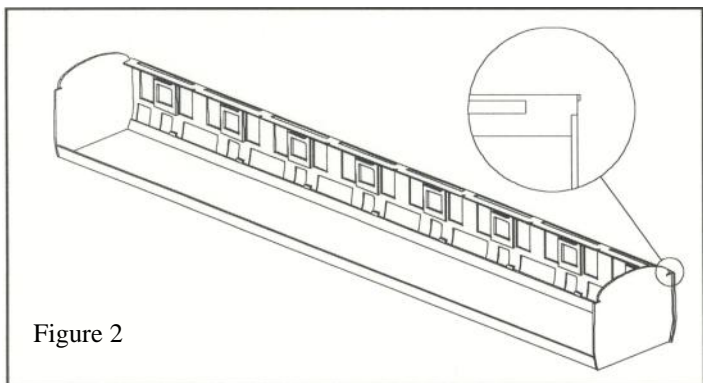

Figure 2
2. At this stage you should apply your chosen coach sides. Solder one to the floorpan by tack soldering, starting at the location shown. Check the alignment carefully as you go. Patience at this stage will be well rewarded. Once everything is correctly set up, solder along the seams. The sides overlap the false ends slightly to provide the correct recess for our cast panelled ends. (figure 2)